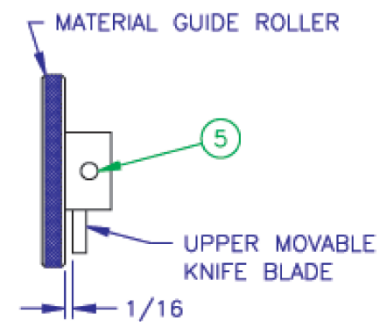

Fig. 3
- e) The material guide roller should be adjusted along the drive shaft to leave 1/16" clearance between the roller and the upper movable knife blade. This is accomplished by loosening the set screws (5) (Fig. 3) in the material guide roller and moving the roller along the shaft until the desired 1/16" clearance is reached. Tighten the set screws. Do not overtighten, the roller is plastic.